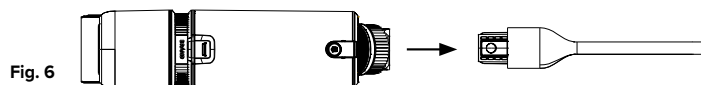

Fig. 6
STEP 2: Push the crevice tool onto the end of the tube. If no extension is required, push the crevice tool directly onto the air inlet until secure. See 'Fig. 6'.